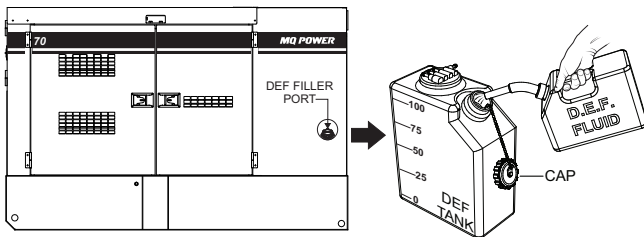

Figure 32. Filling The DEF Tank
2. Remove the **DEF tank filler cap** (Figure 32).